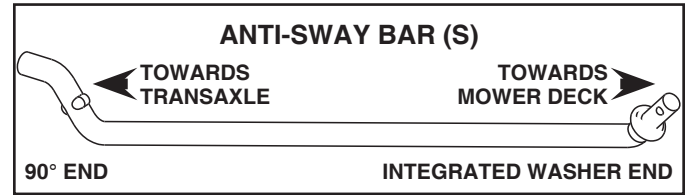

Fig. 7
## 5. INSTALL ANTI-SWAY BAR (S) (IF EQUIPPED) (See Fig. 7 - 9)